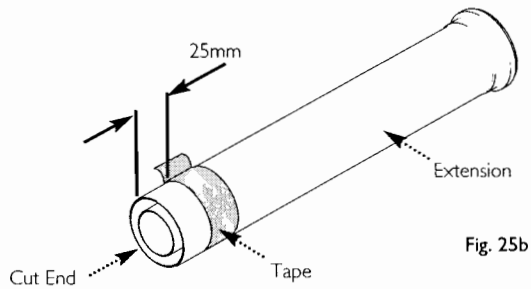

Fig. 25b
16. Measure 25mm from the end of the flue extension and apply a length of tape around the outer duct (Fig. 25b).